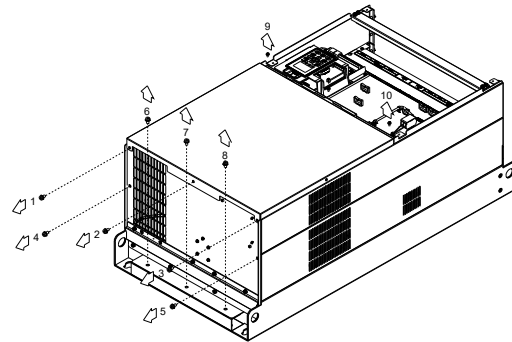

Figure 2
(2) For 1~8 shown in the figure 2: Loosen the screws
For 9~10 shown in the figure 2: Loosen the screws and remove the cover. Screw M4 torque: 14~16 kg-cm / [12.2~13.9 lb-in.] / [1.4~1.6 Nm]